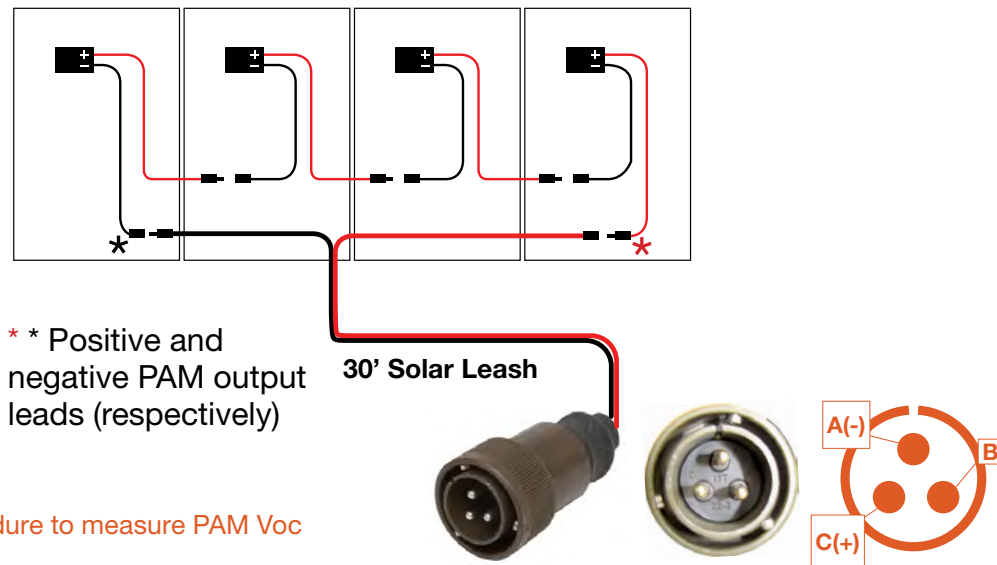

Figure 36. Procedure to measure PAM V_{oc}
3. Disconnect two (2) of the three (3) PV arrays from the Power Hub. Leave one (1) connected as a reference standard for comparing the remaining PV arrays.
6. If a PV array appears to be under performing, measure the V_{oc} of the array. Follow the directions for measuring PV array V_{oc} , Figure 36.